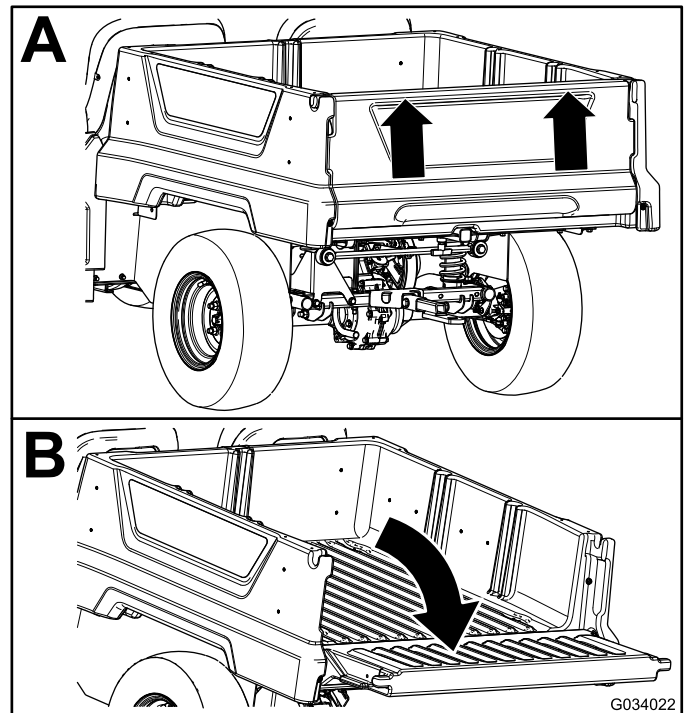

Figure 18
2. Using both hands, raise the tailgate using the ridge near the top of the tailgate (Figure 18).
3. Lower the tailgate until it is flush with the bottom of the cargo bed (Figure 18).